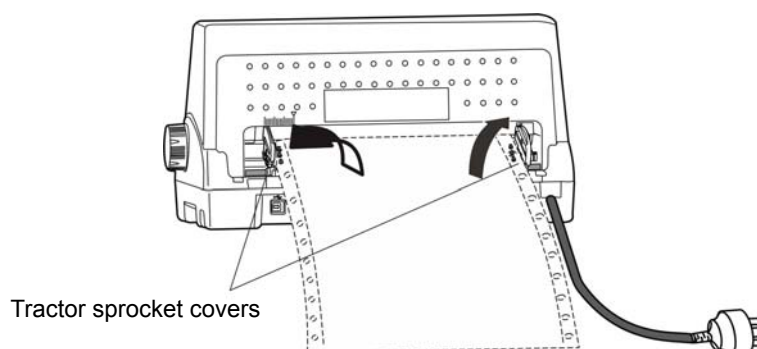

Figure 3-8 Install tractor paper on the tractor
4. Open the right and left tractor sprocket covers and put tractor paper on the tractor as shown in Figure 3-8.